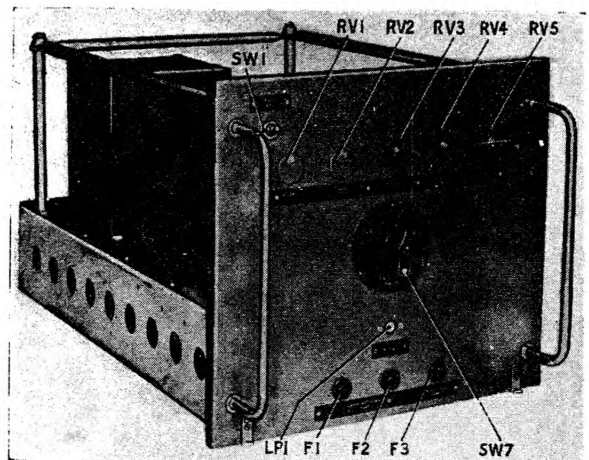

Fig. 1. Rectifier Type 17—front
4. The unit is illustrated in fig. 1 to 3 and the circuit is given in fig. 4. The 230V 50 c/s mains supply is fed to the primary of transformer TR1 via SW1 and the 3A fuses FS1 and FS2. The 50V DC supply is produced by the selenium rectifier fed from a suitable tapping on the secondary of TR1. The positive side of the 50V DC is earthed and the negative line includes the 5A fuse FS3. A choke input filter (L1, C1 and C2) and a constant 200-ohm load (R1 and R2 in parallel) provide adequate regulation while LP1 indicates the availability of the 50V DC supply.